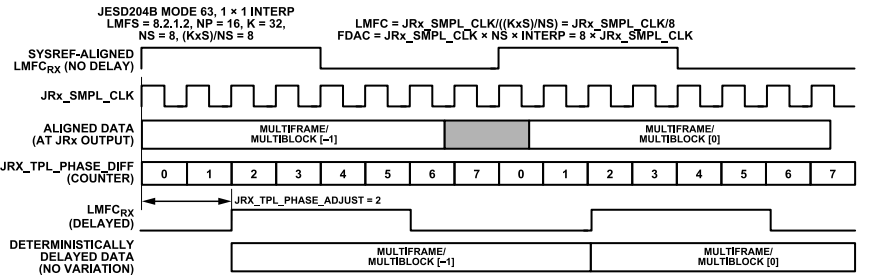
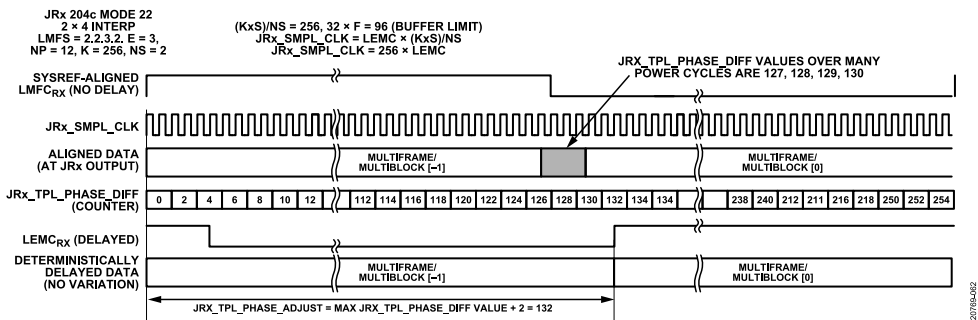

Figure 68. Example 2, Setting LMFC/LEMC Delay for Deterministic Latency (Derived from JRX\_TPL\_PHASE\_DIFF)
Figure 69. Example 1, Setting LMFC/LEMC Delay for Deterministic Latency (Derived from JRX\_TPL\_PHASE\_DIFF)
3. The latest possible arriving time is equal to the largest value recorded in Step 1. The count values range from 0 to  $((K \times S)/NS) - 1$  (the number of JRX\_SAMPLE\_CLK cycles in the LMFC/LEMC. If the range of values recorded span the terminal count value of the JRX\_SAMPLE\_CLK counter, the latest possible arriving time value could be from 0 to 3 (see the example in Figure 69).
Figure 69 shows an example using JESD204B Mode 63 (1x1 interpolation). Step 1 through Step 3 in this example reveal that there are only two possible values recorded in Step 2, that is, 7 and 0. Accounting for the counter roll-over from 7 to 0, 0 is the latest arriving time (from Step 2). Therefore, a value of 2 is programmed into the JRX\_TPL\_PHASE\_ADJUST register (0 + 2, as described in Step 3). The data read out of the read buffer is deterministically delayed and output on the delayed LMFC/LEMC boundary (read pointer).
Figure 68 shows an example using JESD204C Mode 22 (2x4 interpolation). In this example, the receive buffer depth is  $32 \times F$  JRX\_SAMPLE\_CLK deep, which is 96. The LEMC contains 256 JRX\_SAMPLE\_CLK worth of data. Therefore, the receive buffer cannot store an entire LEMC worth of data. To avoid data errors, perform Step 1 through Step 3 for this example, which results in four possible values recorded in Step 2 (127, 128, 129, and 130). If no adjustment is made to the JRX\_TPL\_PHASE\_ADJUST register, the buffer must have a depth of 255 - 127 (128) to avoid data errors. However, because the latest arrival time of the received data was determined to be at a count of 130 (as described in Step 2), a value of 132 is programmed into the JRX\_TPL\_PHASE\_ADJUST register (130 + 2, as described in Step 3). The data read out of the read buffer is deterministically delayed and output on the delayed LMFC/LEMC boundary (read pointer). Note that this method ensures the minimum latency through the DAC.
Certain combinations of these parameters are supported by the device. See Figure 69 and Figure 68 for a list of supported JESD204B/C modes.